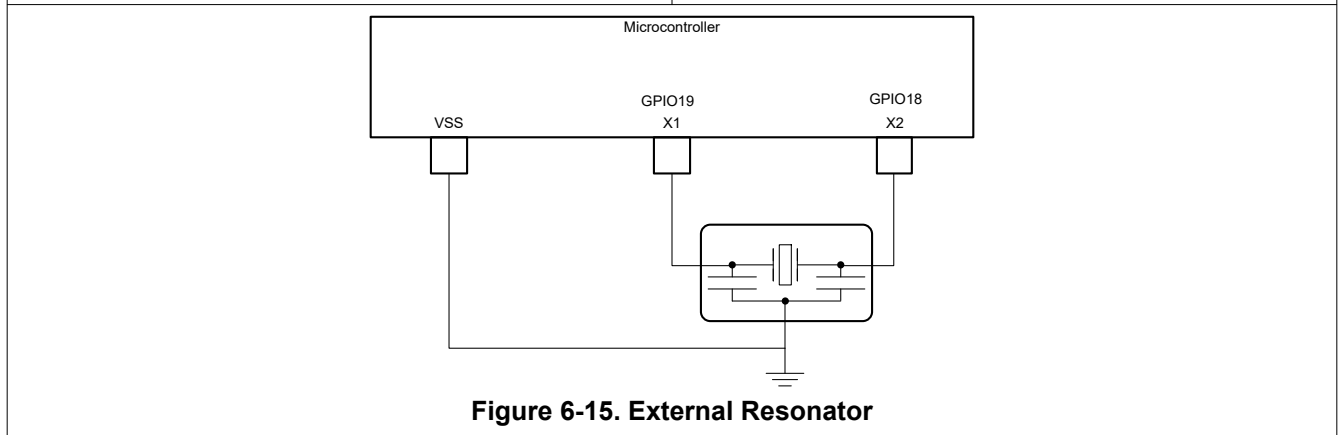

Figure 6-15. External Resonator
- An external resonator. The resonator should be connected across X1 and X2 with its ground connected to VSS as shown in Figure 6-15.